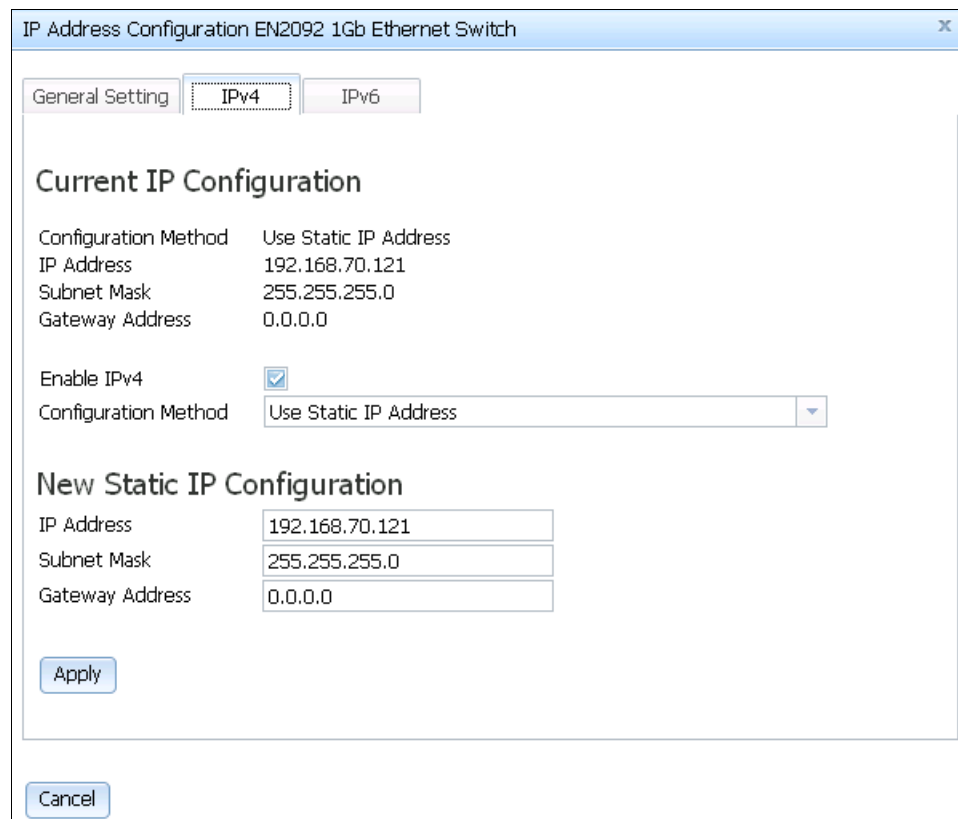

Figure 2-32 Ethernet Switch Configuration wizard
- Click an Ethernet switch. An Ethernet Switch Configuration wizard opens, as shown in Figure 2-32.